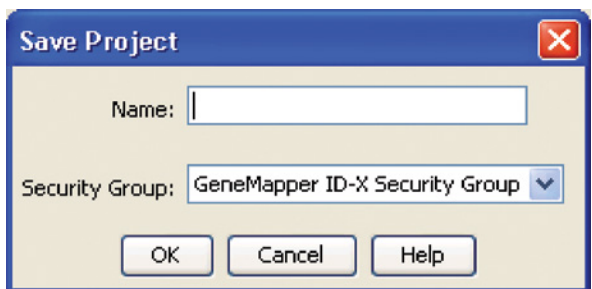

Figure 14. The ‘Save Project’ window.
9. If all analysis requirements are met, the ‘Save Project’ window will open (Figure 14).